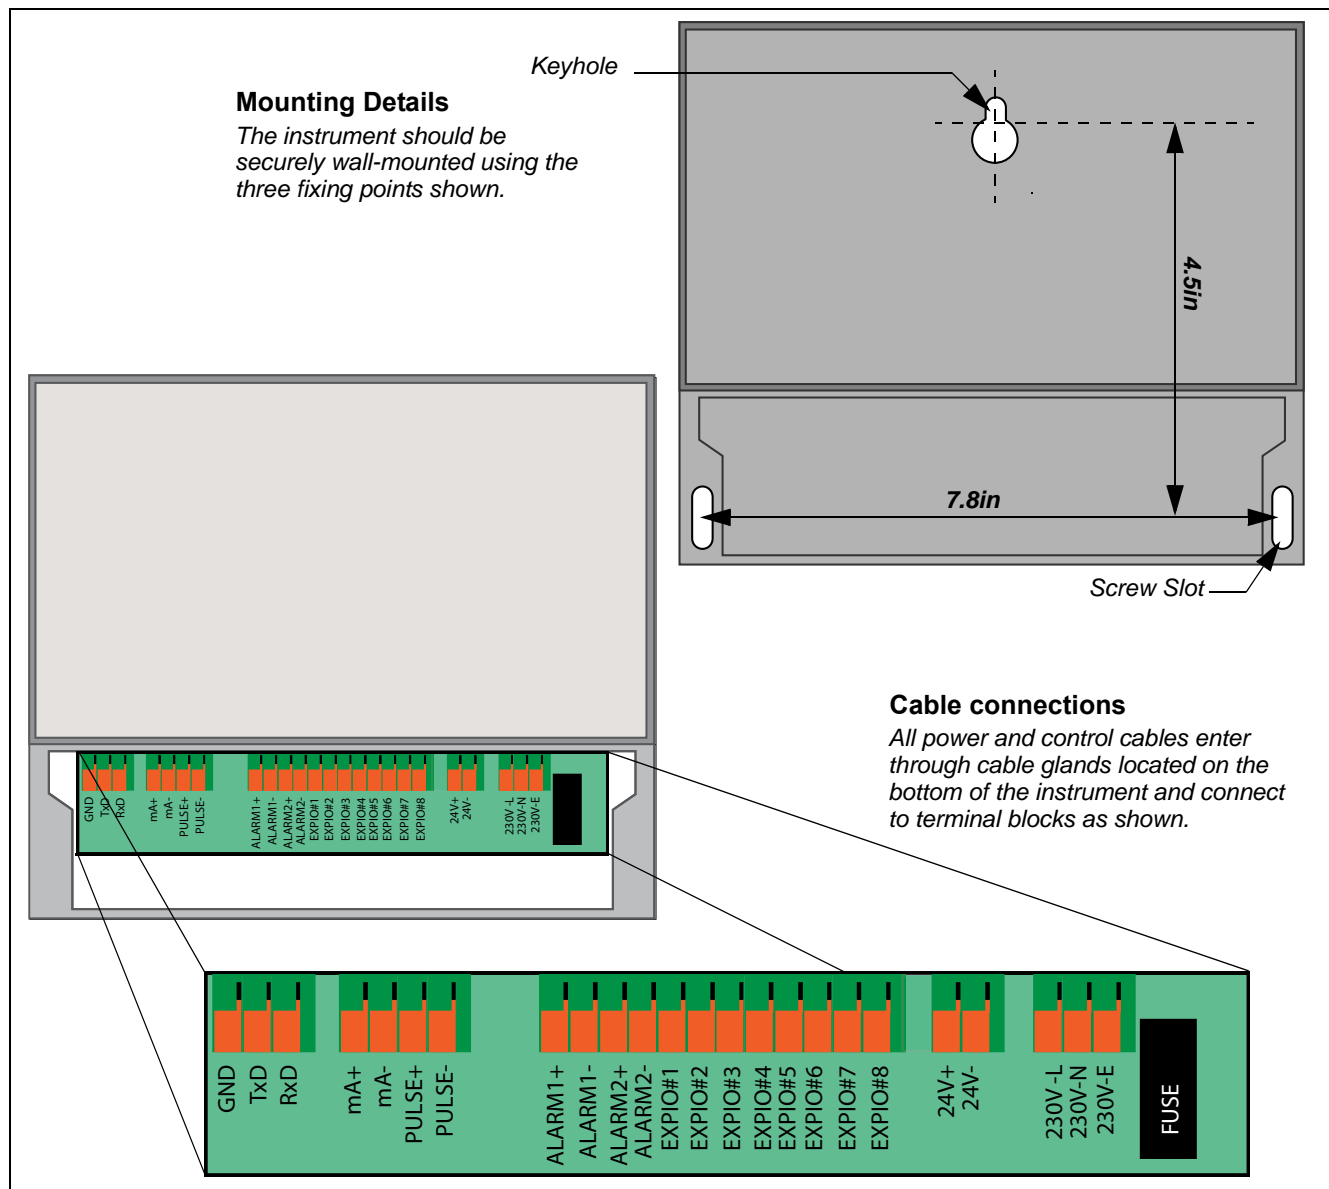

Figure 2.1 UFB Mounting and connection details
3. Cut the wires to length, strip back the insulation by approximately 0.4in (10 mm) and connect them to the required terminals identified in Figure 2.1.
2. Cut the wires to length, strip back the insulation by approximately 0.4 inches (10mm), and connected to them to the correct power supply terminals identified in Figure 2.1.